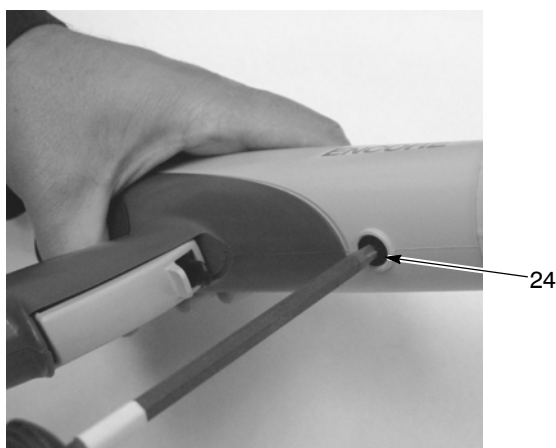

Figure 5-4 Removing Gun Body Screw
5. See Figure 5-4. Remove the M5 x 10 nylon screw (24) from the gun body.
19. See Figure 5-4. Install the M5 x 10 flat head nylon screw into the gun body to secure it to the handle.